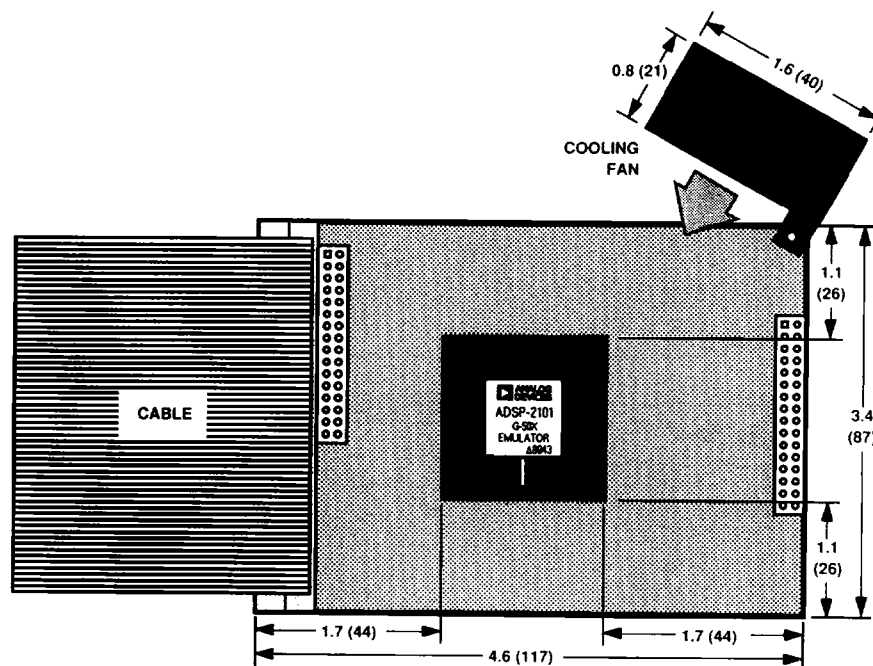

Figure 22. Probe (Top View) Dimensions in Inches (mm)
The emulator probe consists of a target processor board (which holds the emulating ADSP-2101) and two optional boards, an overlay RAM board and interface board. Figures 22 and 23 specify maximum (unless otherwise noted) dimensions for the
probe. Figure 22 is the top view of the target processor board; Figure 23 is the side view of the probe including overlay RAM board and interface board. Also shown are the probe fan and PGA-PLCC adaptor. The PGA-PLCC adaptor is available from: Emulation Technology, 2344 Walsh Ave., Bldg. F, Santa Clara, CA 95051, (408) 982-0660, (P/N AP4-68-PGA); and EDI Corp., P.O. Box 366, Patterson, CA 95363, (209) 892-3270, (P/N 68-PGA/PLCC).